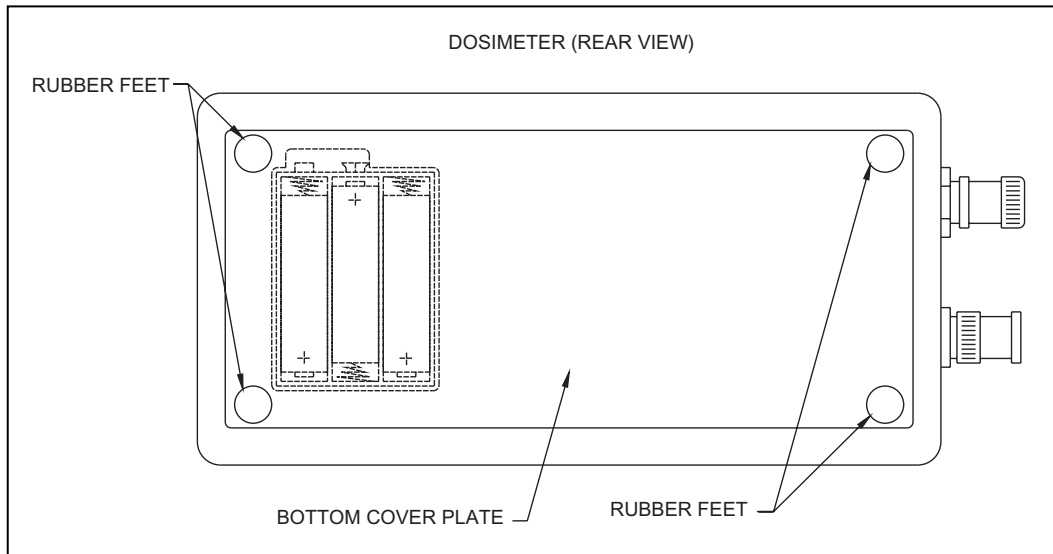

Figure 4-1. The Model 35050AT Dosimeter Battery Replacement
Use the following procedure to replace the battery pack in the Model 35050AT Dosimeter and refer to Figure 4-1.
6. Install the battery pack back into the instrument with the output terminals facing the direction of the notch cutout provided for easy replacement (see Figure 4-1).